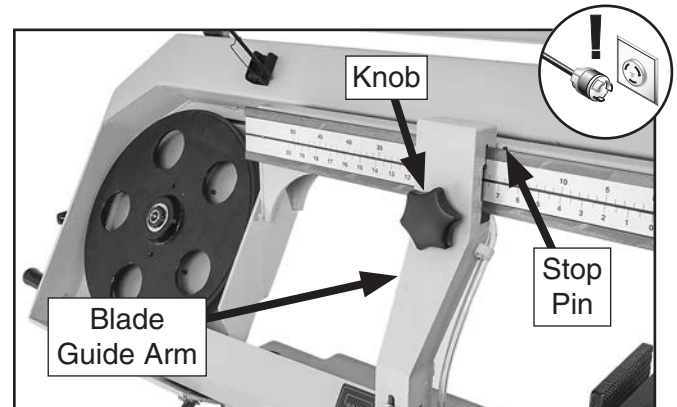

Figure 26. Left guide arm positioned as far right as possible.
4. Loosen knob on left blade-guide arm and move arm until it contacts stop pin on scale, as shown in **Figure 26**. Clean cover and clean out all chips and shavings.